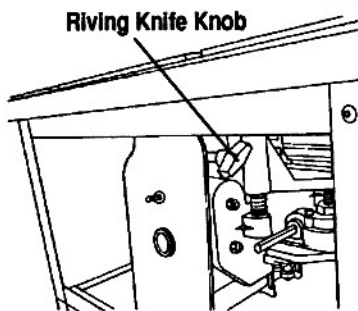

Fig. D-5
2. Tighten the riving knife knob, as indicated in Figs. D-5 and D-6.